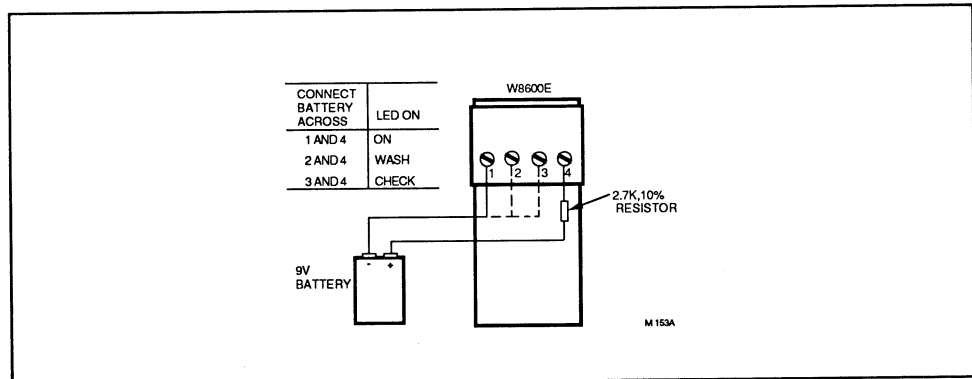

Fig. 6—Check W8600E operation with a 9V battery and 2.7K resistor.
- Three test leads with clips on the ends to connect to the resistor, the battery terminals and the screw terminals on the W8600E. See Fig. 6.